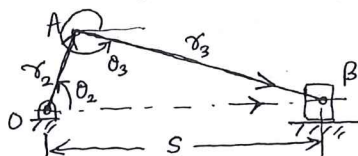

Fig.Q5(a)
- 5 a. For the slider crank mechanism shown in Fig.Q5(a), write (i) loop closure equation
- b. In Fig.Q5(a), if  $r_2 = 100\text{mm}$ ,  $r_3 = 350\text{mm}$ ,  $\theta_2 = 60^\circ$ , find angular velocity and angular acceleration of connecting rod if crank rotates uniformly at 600 rpm in CCW direction. (12 Marks)